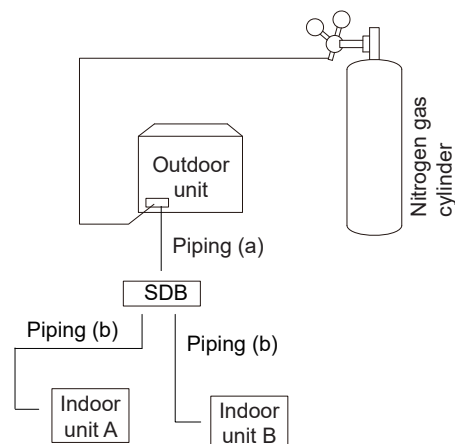

Fig. 5-16
- b) Braze the refrigerant piping and branch joints between outdoor unit(s) and SDB box (piping (a) in Fig. 5-16), but not connect piping (a) to SDB box.
- d) Braze the refrigerant piping and branch joints between SDB and indoor units (piping (b) in Figure 5.16), but not connect piping (b) to SDB box.